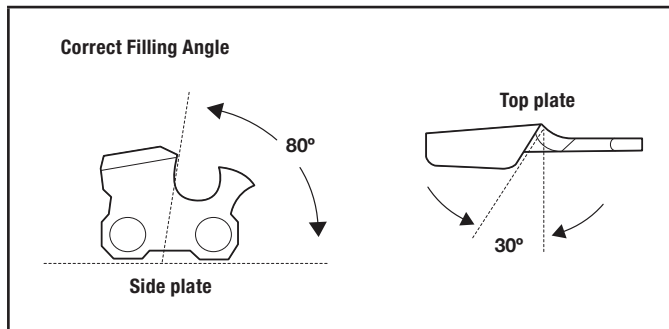

Figure 34
- 2d. Apply a few firm strokes to each tooth. When filed correctly, the top plate will be at a 30° angle and the side plate will be at an 80° angle (Fig. 34). Using the correct file and file holder will automatically produce the correct angles.